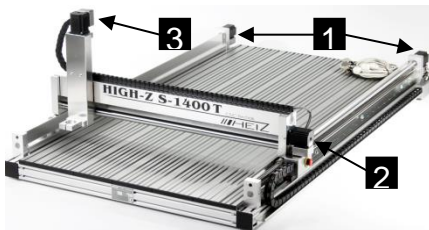

Figure 23: Stepper motors of axes
- X-axis stepper motor (Fig. 23/1) to terminals X1 and X2 of the stepper motor controller
- Y-axis stepper motor (Fig. 23/2) to terminal Y, the stepping motor control
- Stepper motor Z-axis (Fig. 23/3) to terminal Z of the stepper motor control